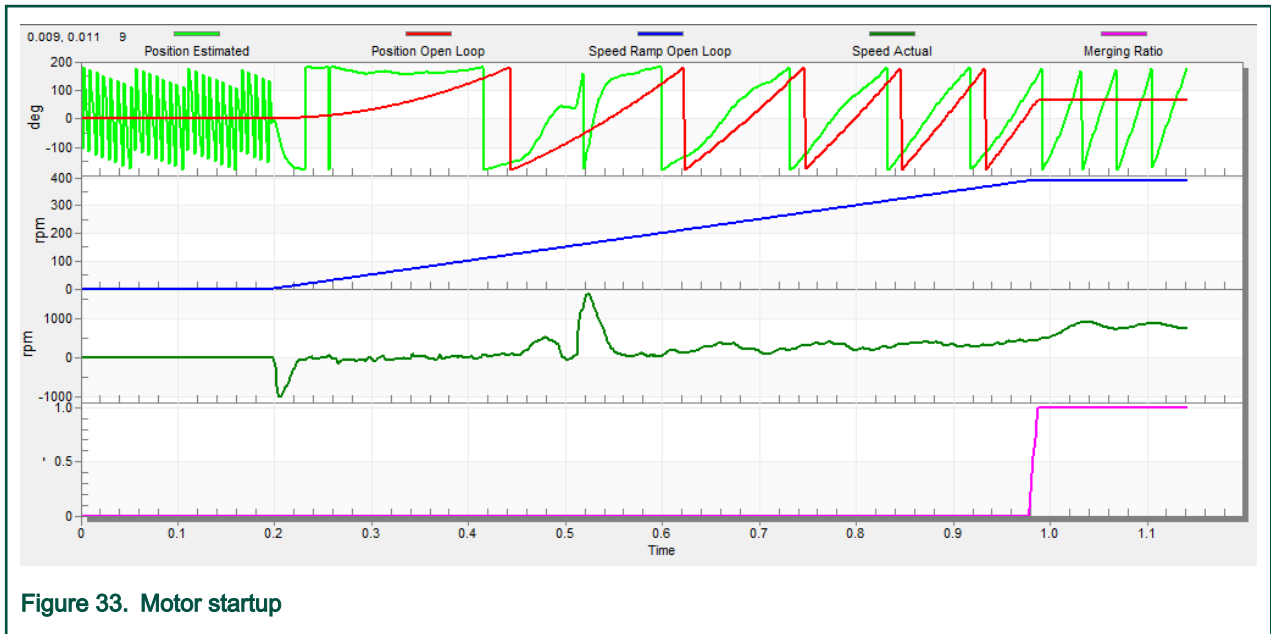

Figure 33. Motor startup
1. The start-up process can be tuned by a set of parameters located in the “Sensorless” tab. Two of them (ramp increment and current) are accessible in both tuning modes. The start-up tuning can be processed in all control modes besides the scalar control. Setting the optimal values results in a proper motor startup. An example start-up state of low-dynamic drives (fans, pumps) is shown in Figure 33.